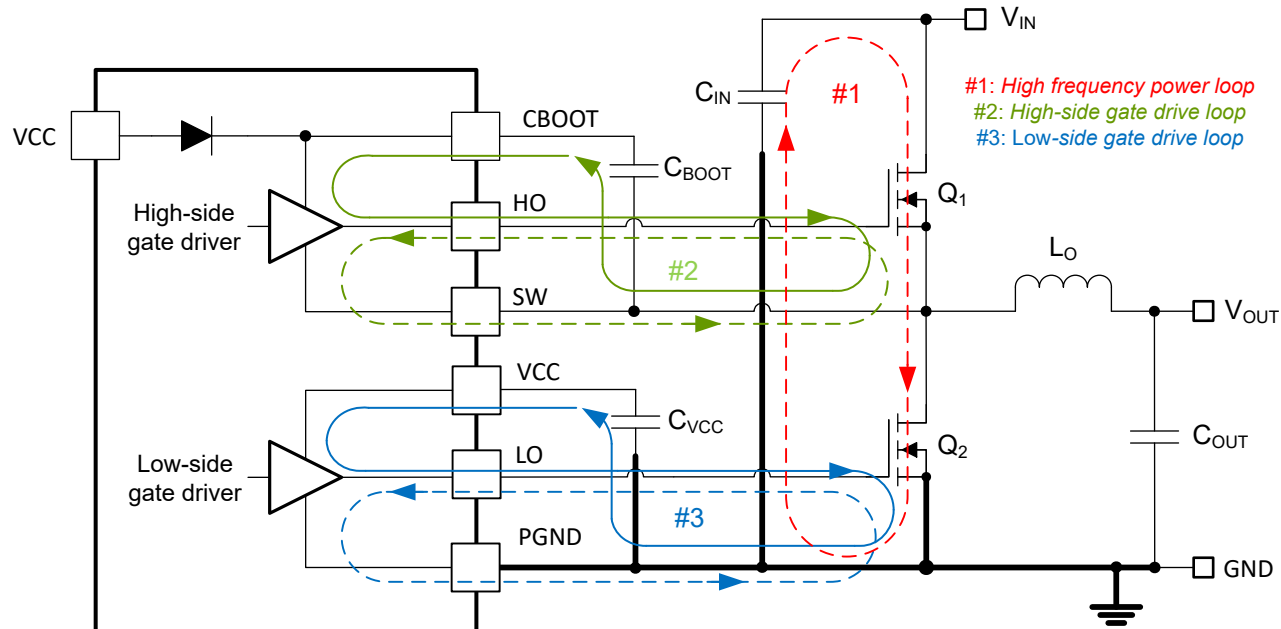

Figure 9-47. DC/DC Regulator Ground System With Power Stage and Gate Drive Circuit Switching Loops
Proper PCB design and layout is important in a high-current, fast-switching circuit (with high current and voltage slew rates) to achieve a robust and reliable design. As expected, certain issues must be considered before designing a PCB layout using the LM5149. The high-frequency power loop of a buck regulator power stage is denoted by loop 1 in the shaded area of Figure 9-47. The topological architecture of a buck regulator means that particularly high di/dt current flows in the components of loop 1, and it becomes mandatory to reduce the parasitic inductance of this loop by minimizing its effective loop area. Also important are the gate drive loops of the high-side and low-side MOSFETs, denoted by 2 and 3, respectively, in Figure 9-47.
- Loop 1: The most important loop area to minimize is the path from the input capacitor or capacitors through the high- and low-side MOSFETs, and back to the capacitor or capacitors through the ground connection. Connect the input capacitor or capacitors negative terminal close to the source of the low-side MOSFET (at ground). Similarly, connect the input capacitor or capacitors positive terminal close to the drain of the high-side MOSFET (at VIN). Refer to loop 1 of Figure 9-47.
5. The SW pin connects to the switch node of the power conversion stage and acts as the return path for the high-side gate driver. The parasitic inductance inherent to loop 1 in Figure 9-47 and the output capacitance (C_{OSS}) of both power MOSFETs form a resonant circuit that induces high frequency (greater than 50 MHz) ringing at the SW node. The voltage peak of this ringing, if not controlled, can be significantly higher than the input voltage. Make sure that the peak ringing amplitude does not exceed the absolute maximum rating limit for the SW pin. In many cases, a series resistor and capacitor snubber network connected from the SW node to GND damps the ringing and decreases the peak amplitude. Provide provisions for snubber network components in the PCB layout. If testing reveals that the ringing amplitude at the SW pin is excessive, then include snubber components as needed.
- Loop 2: high-side MOSFET, Q_1 . During the high-side MOSFET turn-on, high current flows from the bootstrap (boot) capacitor through the gate driver and high-side MOSFET, and back to the negative terminal of the boot capacitor through the SW connection. Conversely, to turn off the high-side MOSFET, high current flows from the gate of the high-side MOSFET through the gate driver and SW, and back to the source of the high-side MOSFET through the SW trace. Refer to loop 2 of Figure 9-47.
- Loop 3: low-side MOSFET, Q_2 . During the low-side MOSFET turn-on, high current flows from the VCC decoupling capacitor through the gate driver and low-side MOSFET, and back to the negative terminal of the capacitor through ground. Conversely, to turn off the low-side MOSFET, high current flows from the gate of the low-side MOSFET through the gate driver and GND, and back to the source of the low-side MOSFET through ground. Refer to loop 3 of Figure 9-47.